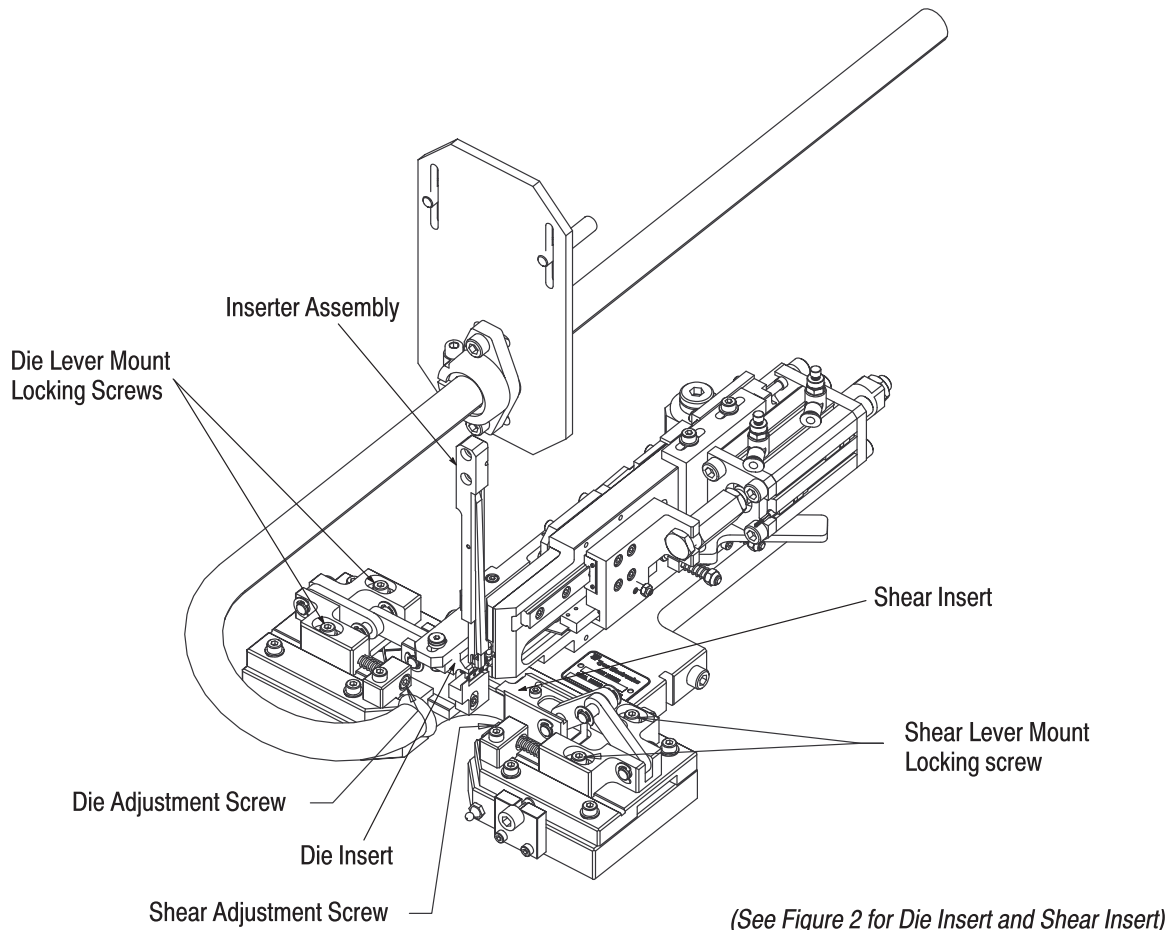

Figure 17
#### **5.7. Die Travel Adjustment** (See Figure 17)
#### **5.8. Shear Travel Adjustment** (See Figure 17)
**5.10. Lower Tooling Tip Height Adjustment** (See Figure 17)**NOTE**